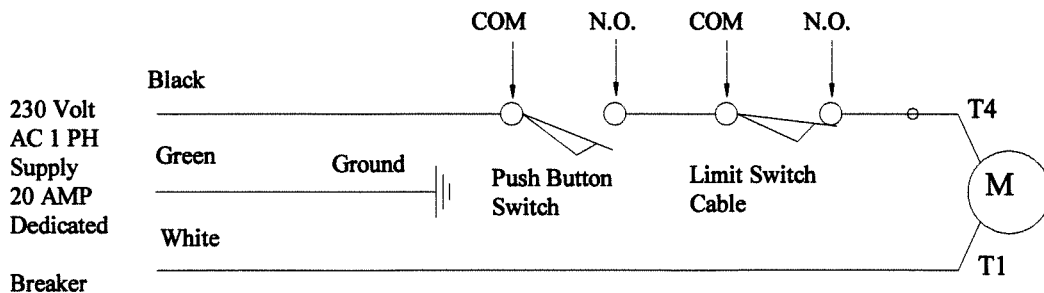

Figure 9
25. Establish the electrical hookup to 220V single phase as shown in Figure 9 below.